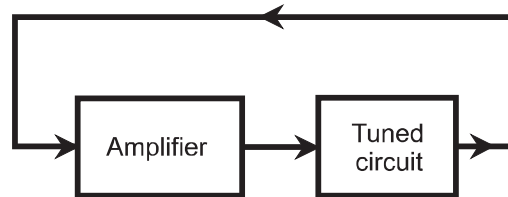

Fig. 8-1. The basic concept of an oscillator.
The frequency of an RF oscillator can be controlled by means of a tuned, or resonant, circuit in the *feedback loop* (Fig. 8-1). This resonant circuit is usually an inductance-capacitance (LC) or resistance-capacitance (RC) combination. The LC scheme is common at RF; the RC method is often used in audio oscillators.